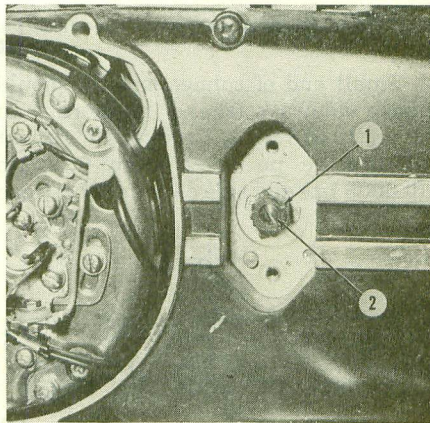
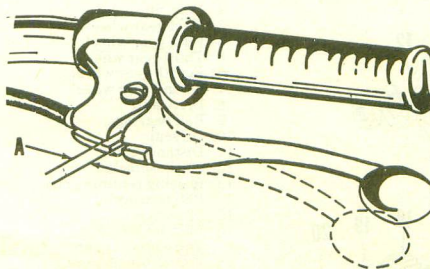

Fig. Y11-8—Clutch adjustment point on left side of engine.
Fig. Y11-9—Adjust clutch cable to obtain 2-3mm free play at (A).
**CLUTCH CONTROLS.** To adjust clutch, remove the small cover on left side of engine case. Loosen lock nut (1—Fig. Y11-8) and turn screw (2) in until it seats lightly. Back screw out ¼ turn and tighten lock nut. The clutch lever should be adjusted to provide 1/16-1/8 inch free play. Refer to Fig. Y11-9.